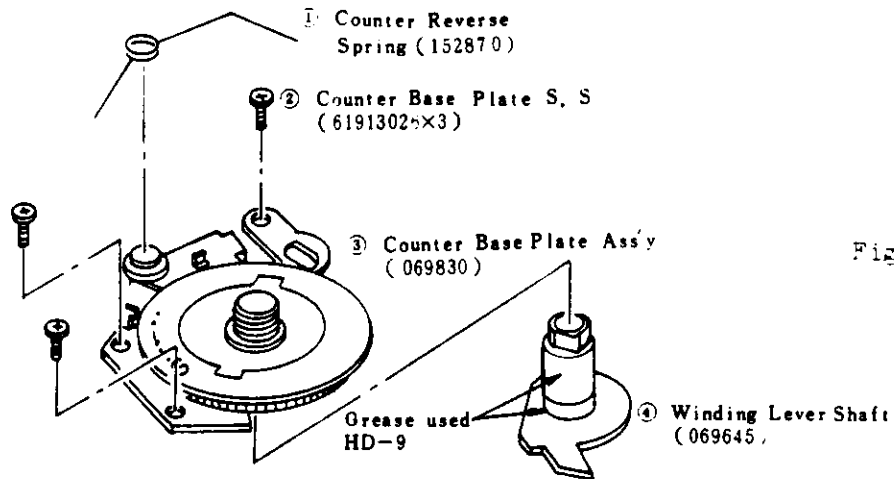

Fig 23
b) Remove the respective parts ① ~ ④ shown in (Fig 23) in numerical order.